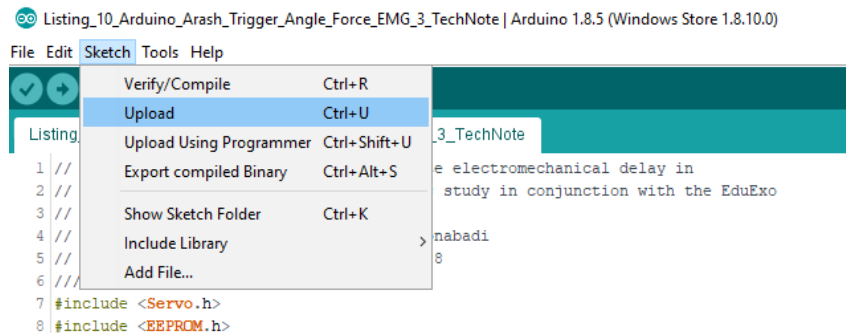

Figure 3: Copy and Upload the code in the board
- 3) Click "File > New" and copy the code from the "Arduino sketch code" section in this tutorial into the new sketch window. Then click "Sketch > Upload" (figure 3).